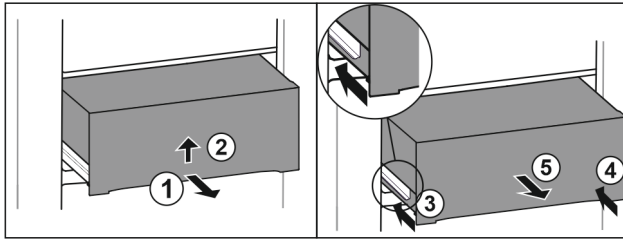

Fig. 32
- Pull out drawer half-way. Fig. 32 (1)
- Lift the drawer from the bottom. Fig. 32 (2)
- Insert left rail. Fig. 32 (3)
- Insert right rail. Fig. 32 (4)
- Remove drawer to the front. Fig. 32 (5)